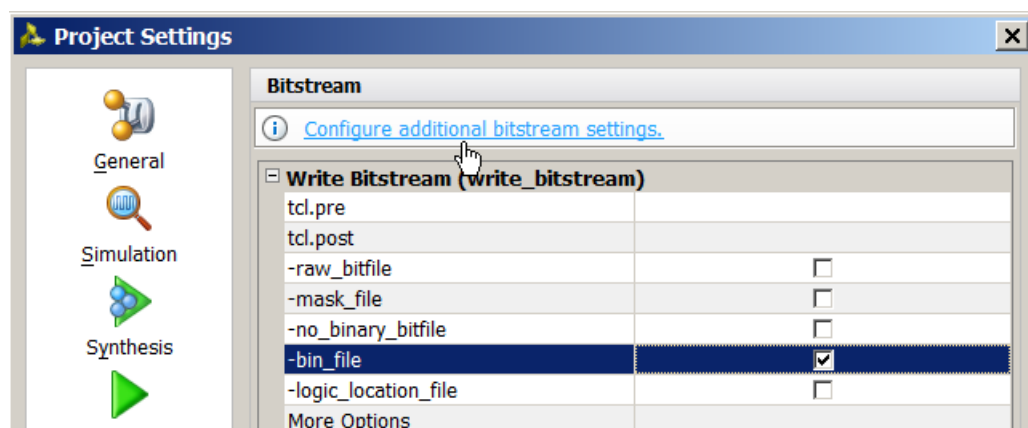

Figure 16: Configure Additional Bitstream Settings
3. From the same Project Settings window, click on the **Configure additional bitstream settings** link as shown in Figure 16. (This link is only available when the project has an opened synthesized or implemented design.)